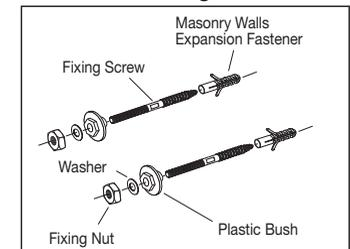

Fig. 2
- 3- Insert expansion fasteners into the drilled holes in masonry wall. Screw Fixing Screws into the wall using the flats located on the screws section of the stud and spanner as shown in **Fig. 2**. Allow 48 mm of thread to protrude from the finished wall.